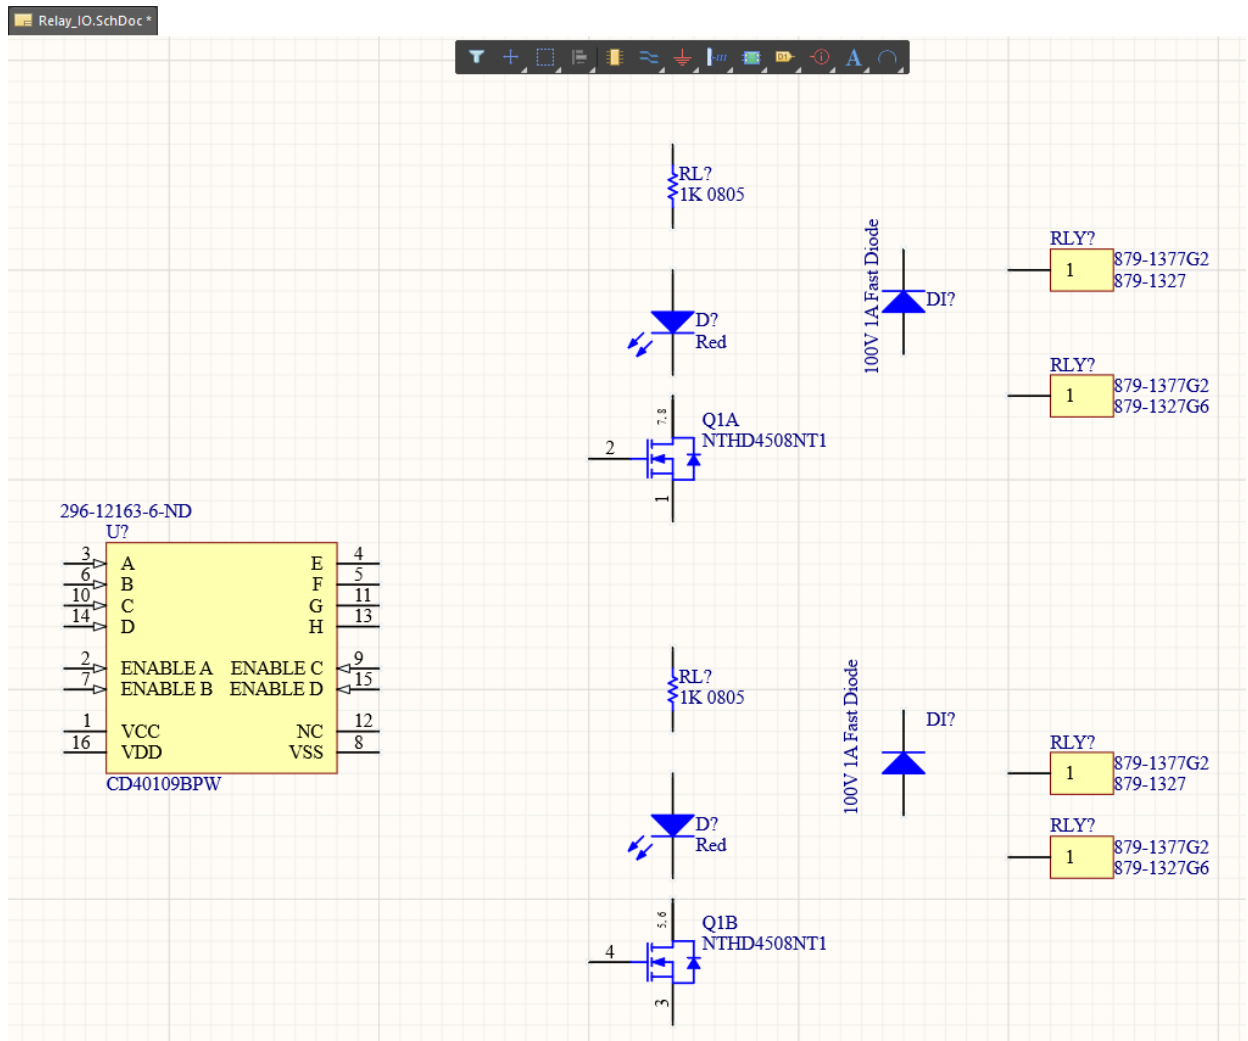

Figure 15. Final Relay I/O Schematic we create with the next steps.
28. Open the `Relay_IO.SchDoc`. Use Figure 15 as reference for component placement.